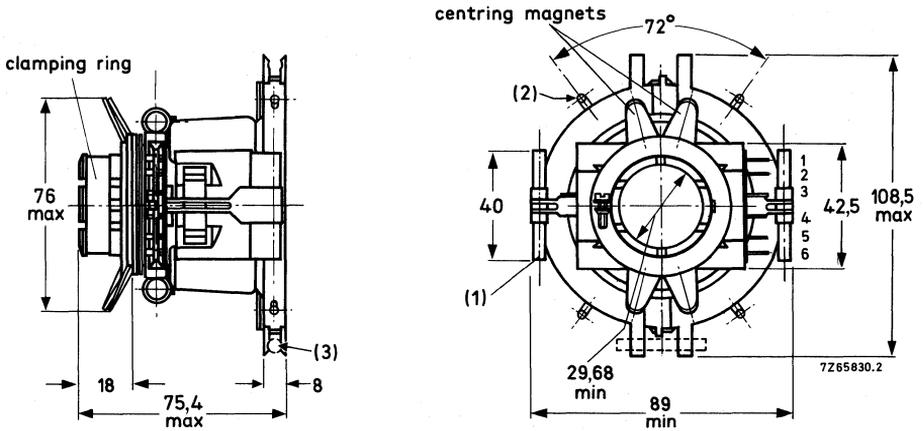

Fig. 1 Deflection unit AT1040/15.
To optimize the raster geometry plastic bonded Ferroxdure magnet rods can be fitted to the deflection unit, (3), Fig. 1.
The unit is provided with solder pins for connection. The pin numbering in Fig. 1 corresponds to that in the connection diagrams (Fig. 2).